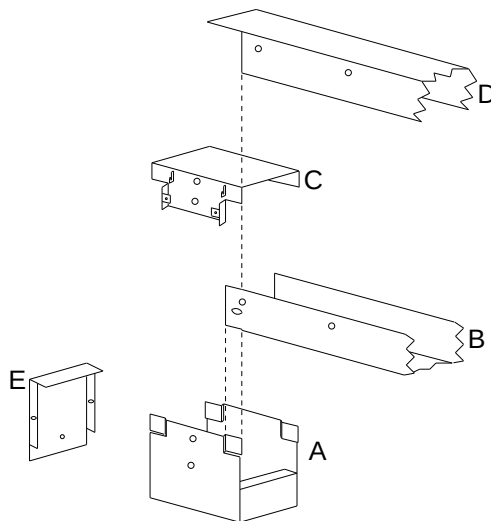
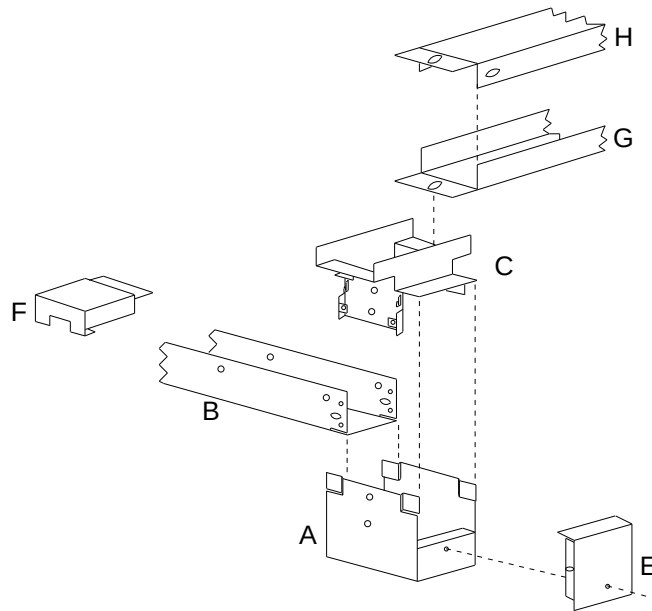

Figure D-4. Assembly of Intercabinet Shielded Ducts
Figure D-5. Assembly of Cross-Aisle Shielded Ducts
3. Set the cabinet riser ("A" on Figure D-4) with its base in place of the dust cover just removed. The four slots in its base should be just behind the bolts and the heads of the two middle bolts should have cleared the holes provided for them. Push the riser forward to seat the bolts in the four slots in the base of the riser. Then tighten the bolts.
9. If a given cabinet is to support a cross-aisle shielded duct, set a cross-aisle riser ("C" on Figure D-5) on the cabinet riser ("A"). Otherwise set a shielded coupling ("C" on Figure D-4) on the cabinet riser. In either case, position the device so that the two holes on the back wall line up with the holes on the back wall of the cabinet riser. Bolt the two pieces together at the holes just described.
2. Set the tongue on the bottom of a cross-aisle trough ("G" on Figure D-5) into the platform of the cross-aisle riser ("C"). From above the trough, run a self-tapping screw through the slot in the trough and into the hole in the riser.
4. If there is no trough ("G" on Figure D-5) to install in one end of the cross-aisle riser ("C"), press a cross-aisle shielded end cap ("F") on the unused end of the riser. (Unlike earlier ductwork, the endcap will fit either end of the cross-aisle riser.) The side walls of the end cap go outside the walls of the riser. The ears on the bottom of the end cap go outside of the riser's bottom plate, and the bottom plate of the end cap goes inside of the riser's bottom plate.